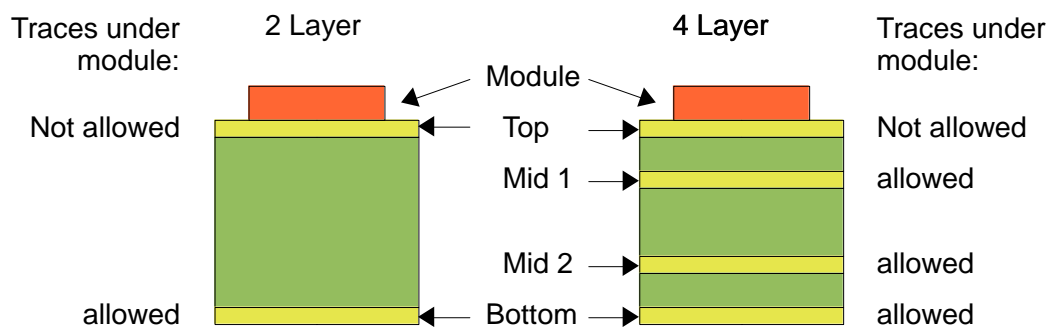

Figure 29: Layer design of 2 and 4 layer boards
- Traces on top layer are not allowed under the module (see **Figure 29**)
- Traces on mid layers and bottom layers are allowed (see **Figure 29**)